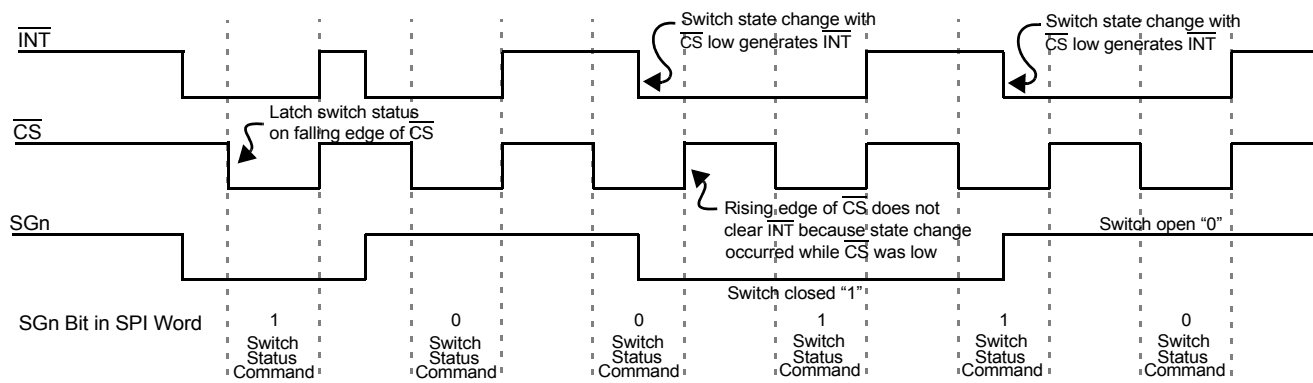

Figure 6. Normal Mode Interrupt Operation
2. INT pin is reset to logic [1], except when additional switch changes occur during $\overline{CS}$ low. (See Figure 6.)
Figure 6 is a graphical description of the device operation in Normal mode. Switch states are latched into the input register on the falling edge of CS. The INT to the MCU is cleared on the rising edge of CS. However, INT will not clear on rising edge of CS if a switch has closed during SPI communication (CS low). This prevents switch states from being missed by the MCU.